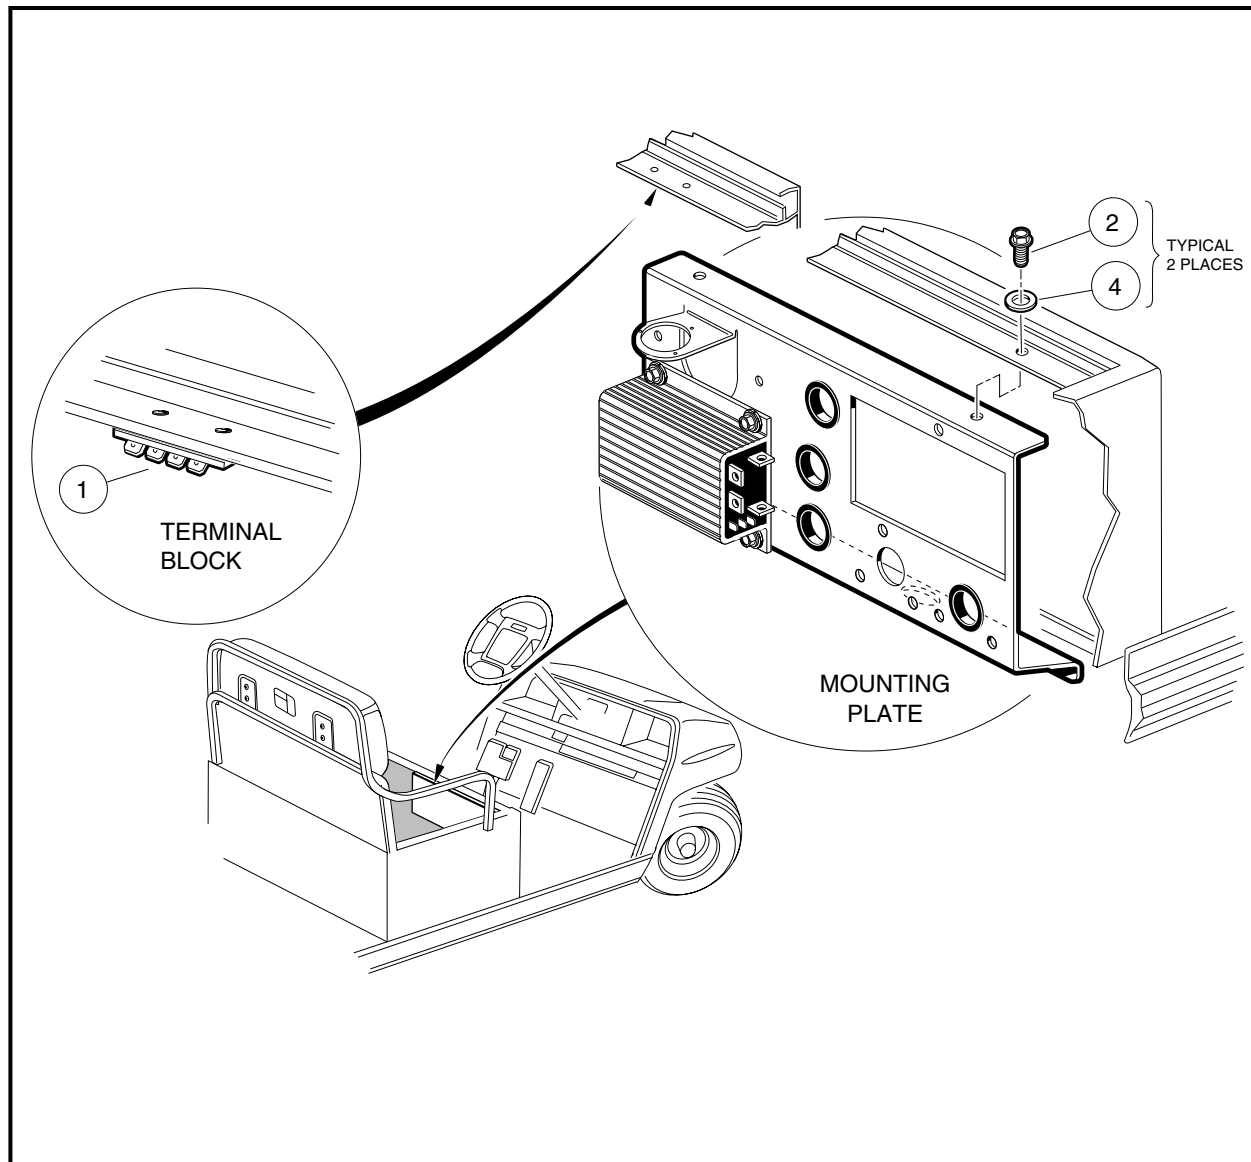

Figure 4-4 Center Body Electrical Mounting Plate
7. Remove the two bolts (2) and two flat washers (4) that secure the electrical mounting plate to the center body assembly (**Figure 4-4, Page 4-4**).
8. Remove all wires from the terminal block (1) located on the driver side of the center body assembly.